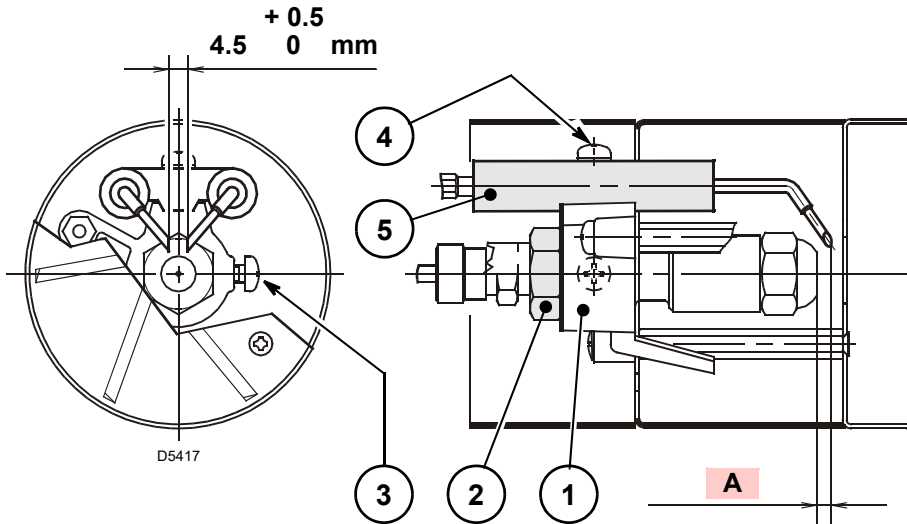

Fig. 15
These dimensions Fig. 15 must be respected.
- Rest the diffuser disc-holder assembly 1)(Fig. 15) against the nozzle holder 2) and lock it with the screw 3)(Fig. 15).
- Remove the wires 1) from the electrodes, loosen the screw 3)(Fig. 15), and take the diffuser disc holder assembly 6) out of the nozzle-holder assembly 5).